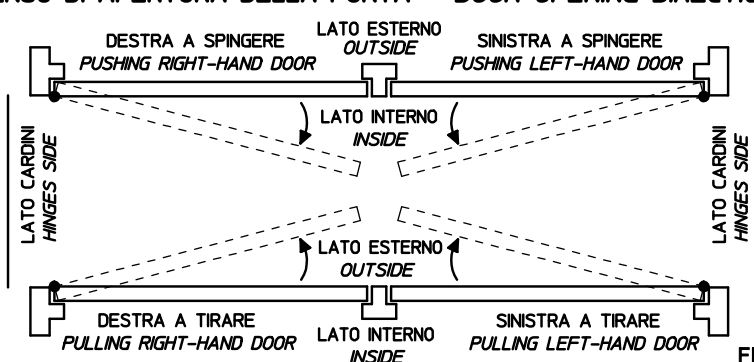

FIG. 1
1. CHECK THE DOOR OPENING DIRECTION USING THE FIG.1 SCHEME AND USE THE INSTALLATION TEMPLATE TO MARK THE POSITION FOR THE FIXING SCREWS ON THE DOOR AND ON THE FRAME AND PREPARE THE HOLES.